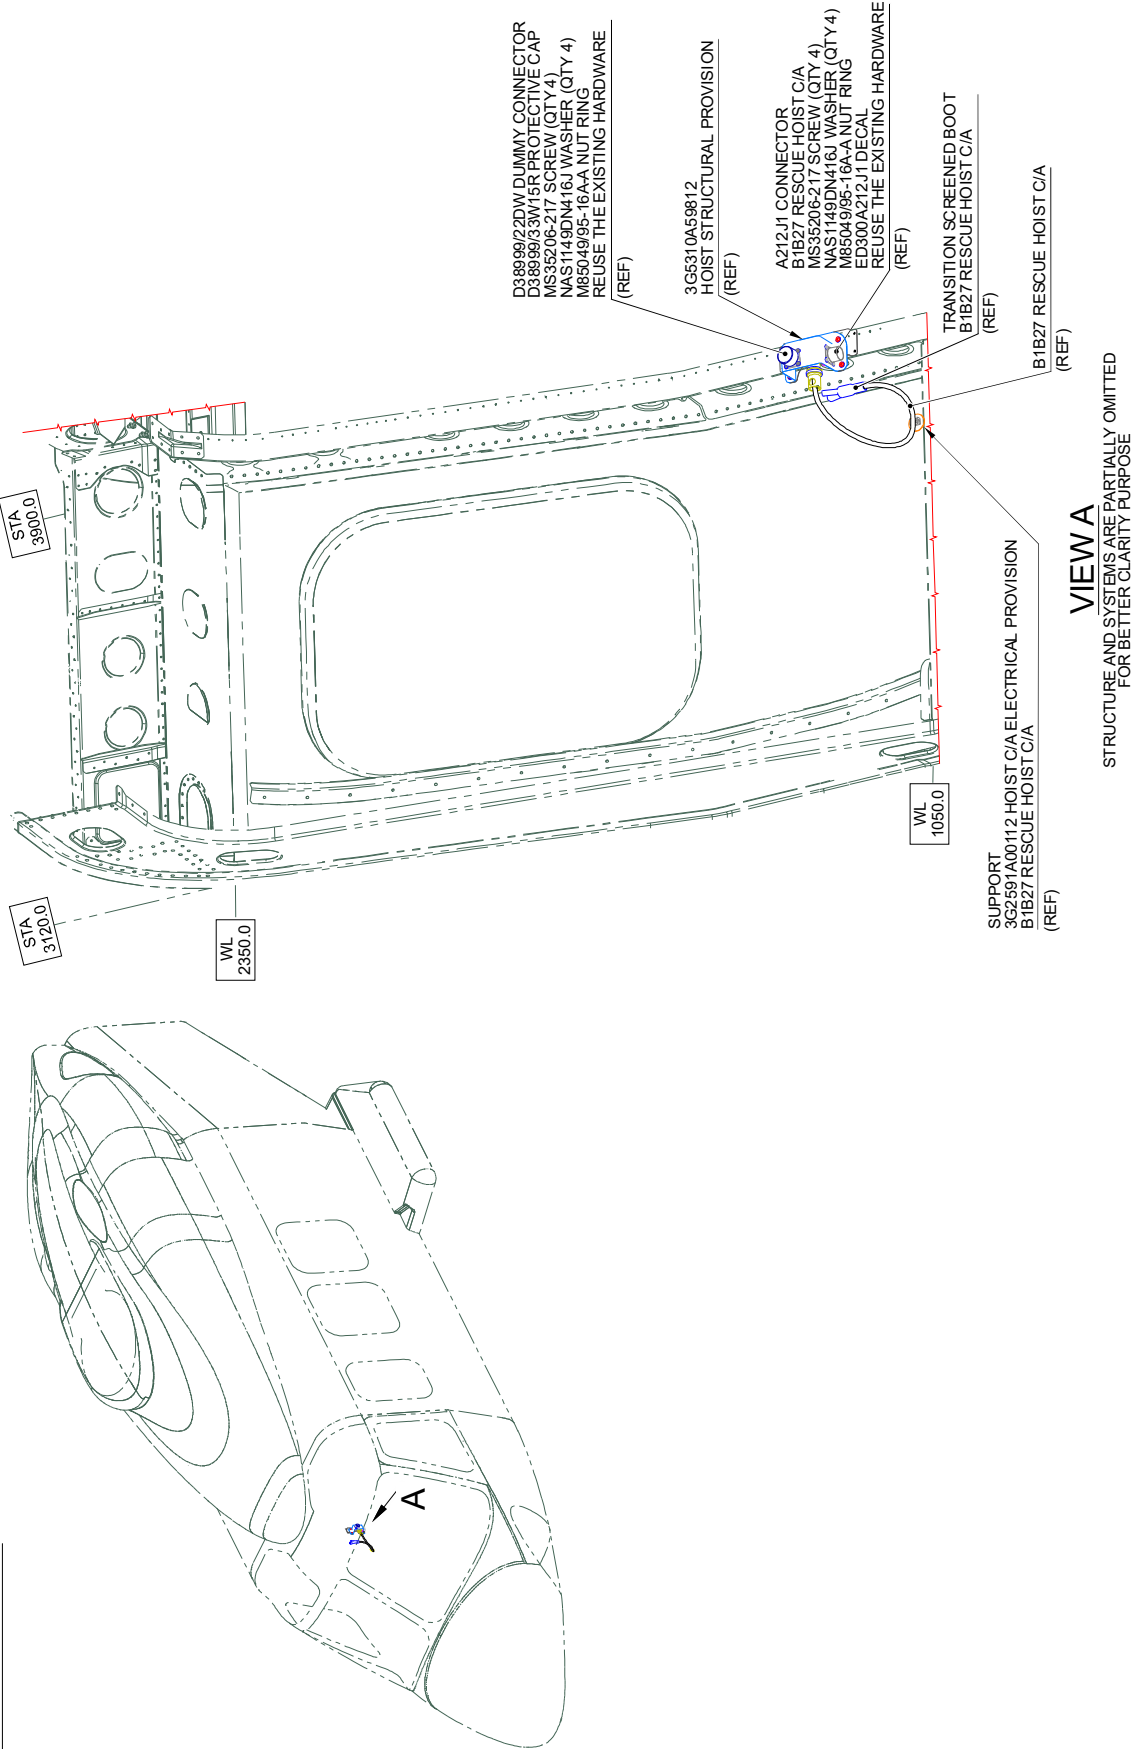

Figure 1
- 3.4 With reference to Figure 1 View A, re-install all the components indicated on the bracket assy.